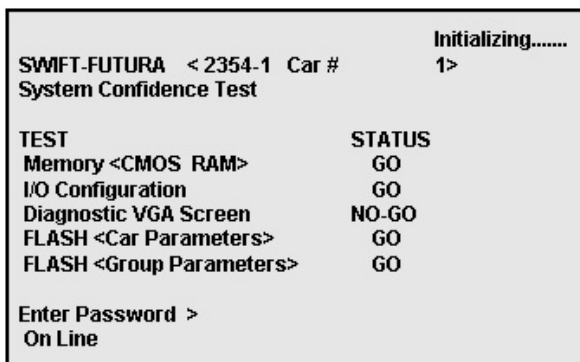

Figure 2-8
5. Cycle off CB2 then back on and check terminal for Confidence test. [See Figure 2-8.]